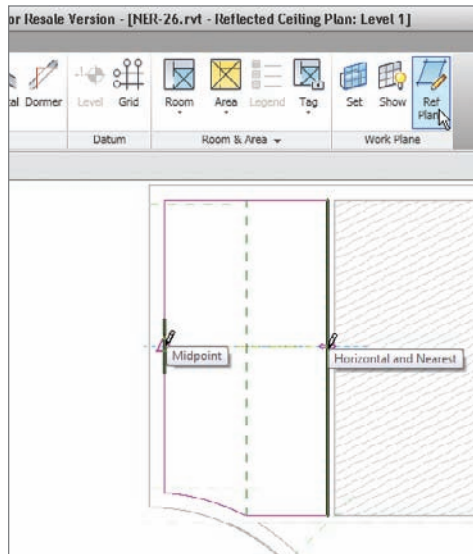

FIGURE 9.24 Drawing two reference planes to create a center intersection
5. Switch to the Home tab, and click the Ref Plane button on the Work Plane panel as shown in Figure 9.24.
6. Draw two reference planes, as shown in Figure 9.24. Be sure to snap to the midpoints of the magenta sketch lines.